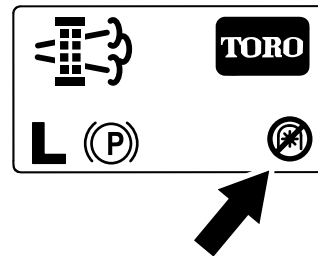

Figure 68
**Note:** The Home screen displays the PTO disabled Icon (Figure 68).
**Note:** The Home screen displays the PTO disabled icon; refer to Figure 68 in Parked Regeneration Messages \(page 40\).